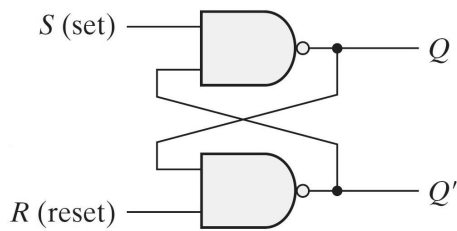

Fig.3: SR Latch with NAND gates
1. Realize the SR Latch in Fig.3 with **NAND gates** using your **SSI Library**. Connect the ports as in the previous one SR Latch with NOR Gate.